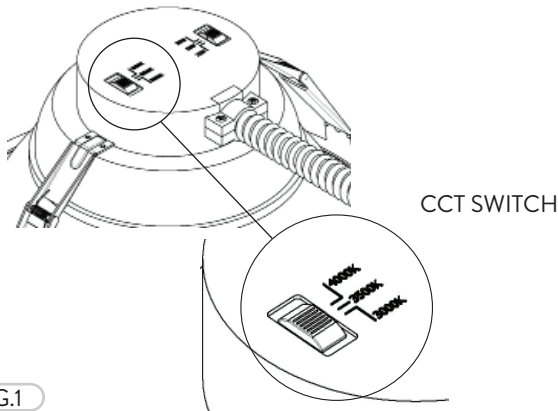
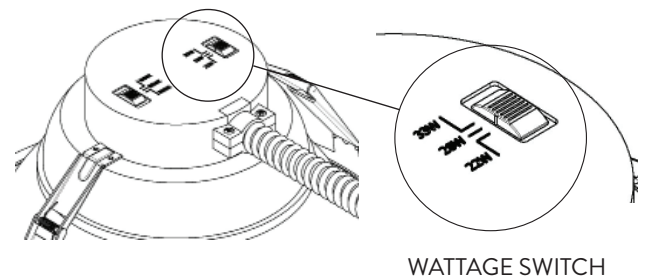
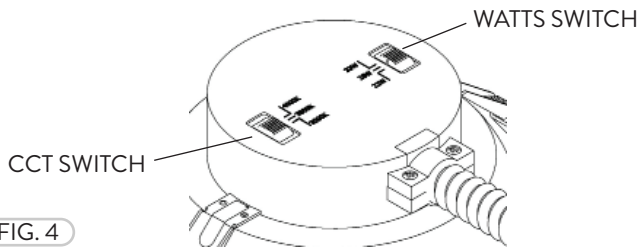

FIG.1
FIG.2
FIG. 4
The Tunable CCT Switch is a device that allows the user to choose a desired color temperature 3000K, 3500K, 4000K (Fig. 1).
The Adjustable Wattage Switch allows the user to choose a desired Wattage. Each model has its own wattage settings as follows: 4” settings are 6, 8, 12W; 6” settings are 8, 12, 16W; 8” settings are 12, 16, 22W; and 10” settings are 22, 28, 33W (Fig 2.).
- 2 Make adjustments to the fixture power and color temperature on the back of the fixture (Fig. 4). Adjust the Color Temperature with the Switch on the left side (Refer to Fig. 1). Adjust the fixture Power in Watts with the Switch on the right side (Refer to Fig. 2).